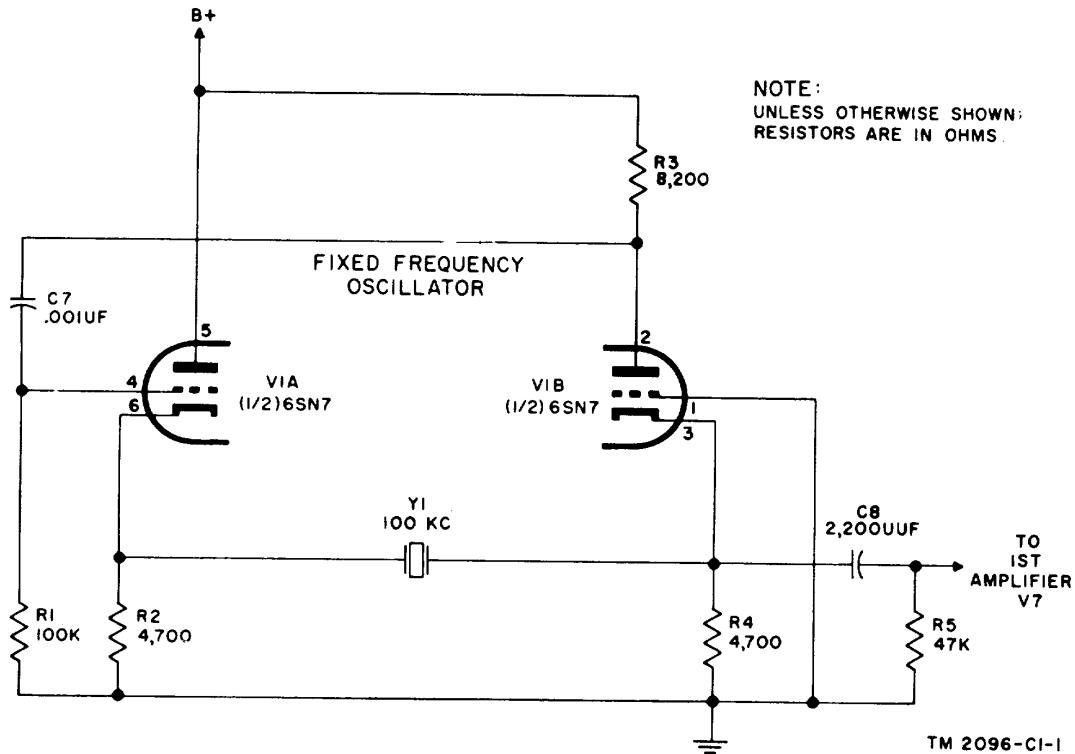

Figure 5-5. Signal Generator SG-15A/PCM, fixed -frequency oscillator, partial schematic diagram.
a. The fixed-frequency oscillator of the SG-15A/PCM consists of tube V1 and associated circuit elements. Tube V1 is a 6SN7 twin triode connected as a crystal-controlled, cathode-coupled oscillator. Figure 5-5 shows a simplified schematic diagram of this circuit.